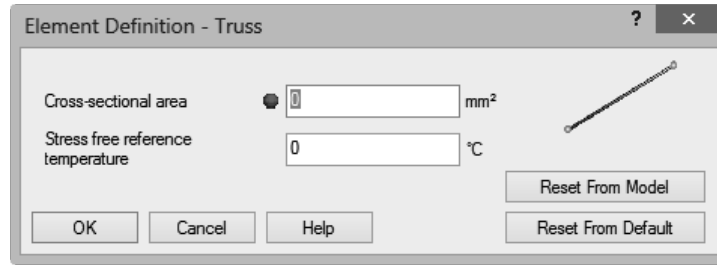

Figure 8-93 The Element Definition - Truss dialog box
2. Select the **Edit Element Definition** option from the shortcut menu; the **Element Definition - Truss** dialog box is displayed, as shown in Figure 8-93.